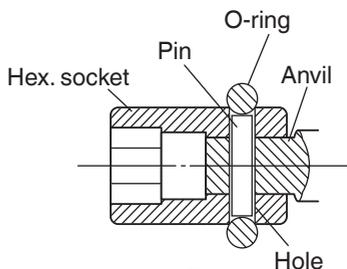

Fig. 4
### (2) WR25SE: Pin, O-ring type (Fig. 4)